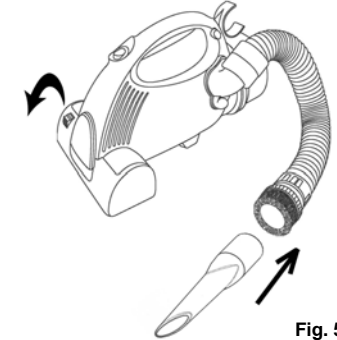

Fig. 5
4. To use the flexible hose with the crevice tool, make sure that the brush is in the storage position and insert the crevice tool into the opening of the hose. (Fig. 5)